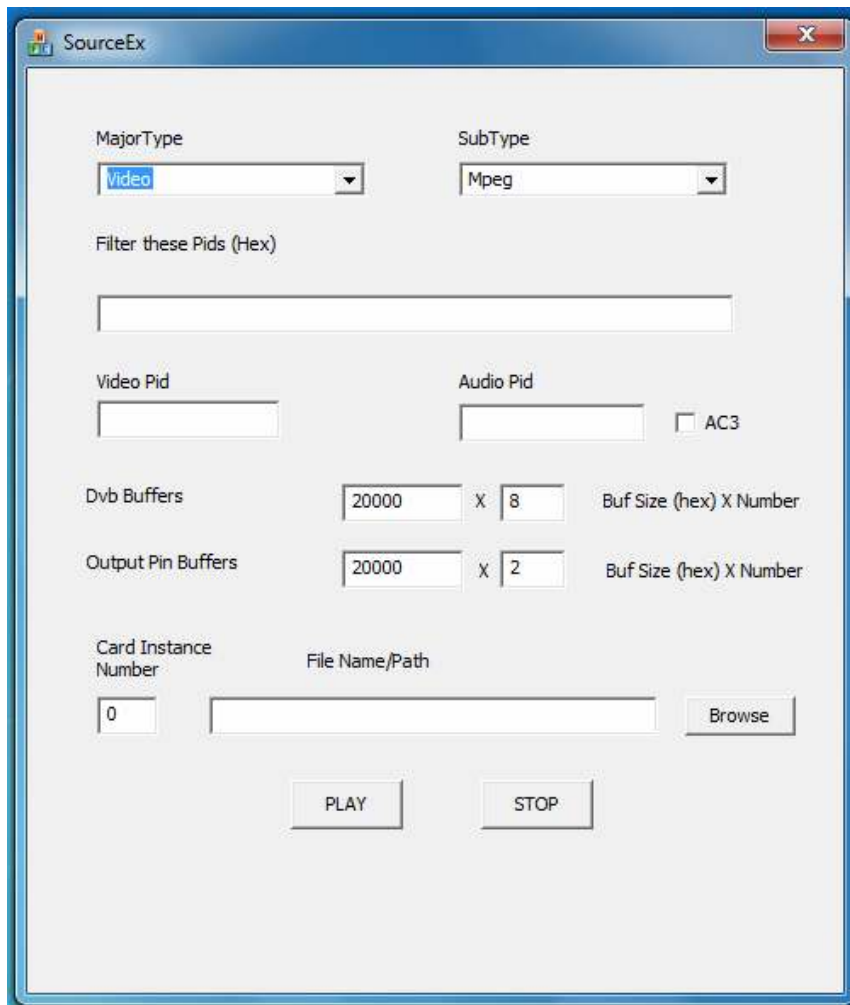

Figure 4.7 SourceEx Window
- This opens up SourceEx window **Fig 4.7**
- Dvb Buffers & Output pin Buffers: See **Fig 4.7** for recommended buffer values